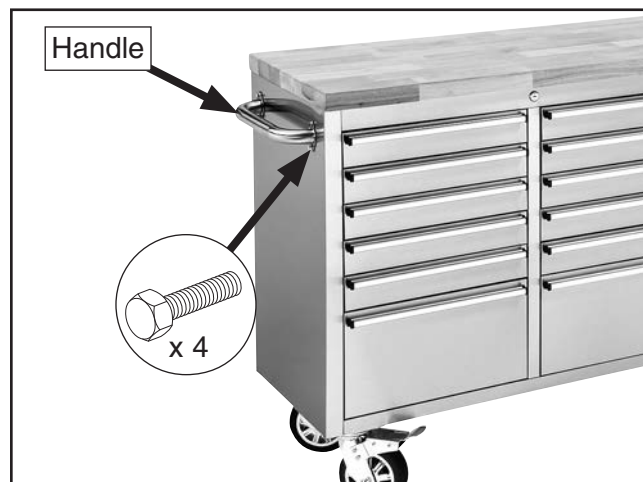

Figure 2. Handle installed.
Attach handles to each side of tool cabinet using (4) 1/4"-20 x 1/2" hex bolts (see **Figure 2**). **Do not over-tighten!**